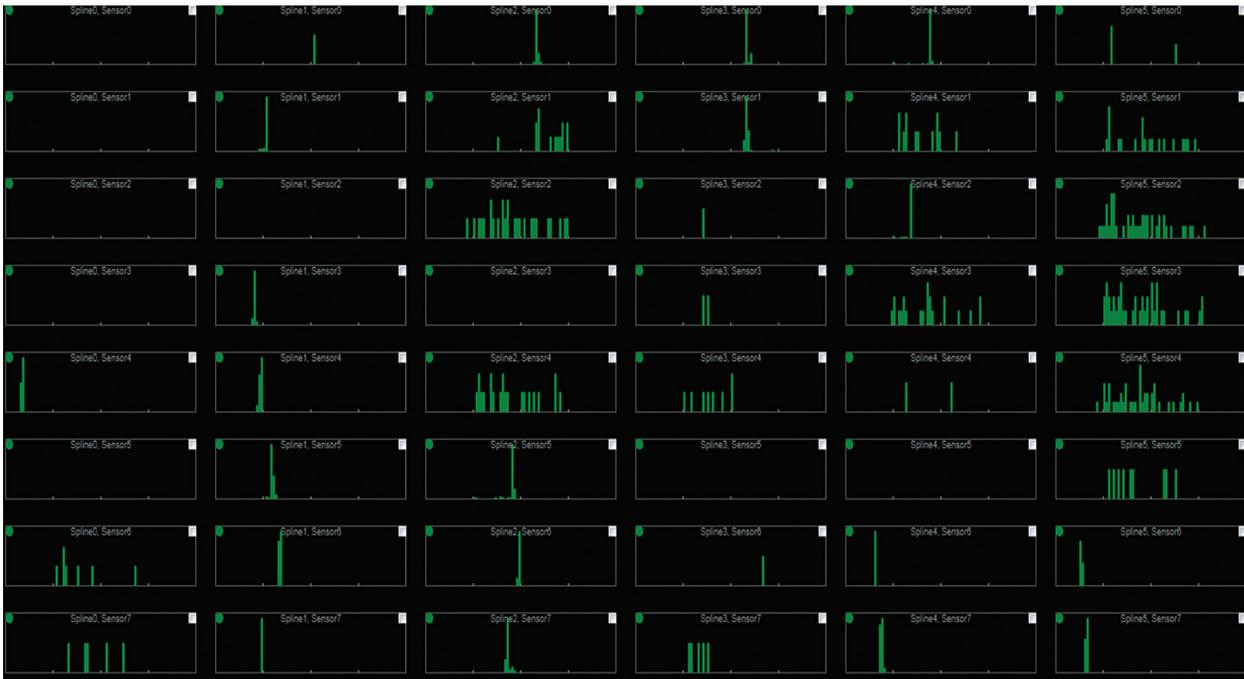

Figure D-5. Example of several nodes with detected range distributions extending beyond a reasonable excursion distance.
- Similarly, detected ranges should not spread over a range that is larger than expected for wall or AcQMap Catheter motion, particularly in a static position. Excursions over a large distance will also be noticeably swept laterally within histograms. The plot in *Figure D-5* shows several nodes with detected range distributions extending beyond a reasonable excursion distance. These nodes are detecting noise and should be excluded by clicking the white checkbox in the upper, right corner of each errant histogram.
The broad, sparse distributions shown in *Figure D-5* are consistent with a low level of noise being detected. Typically, a small reduction in detection gain or an increase in detection threshold will return the range detection behavior to normal.